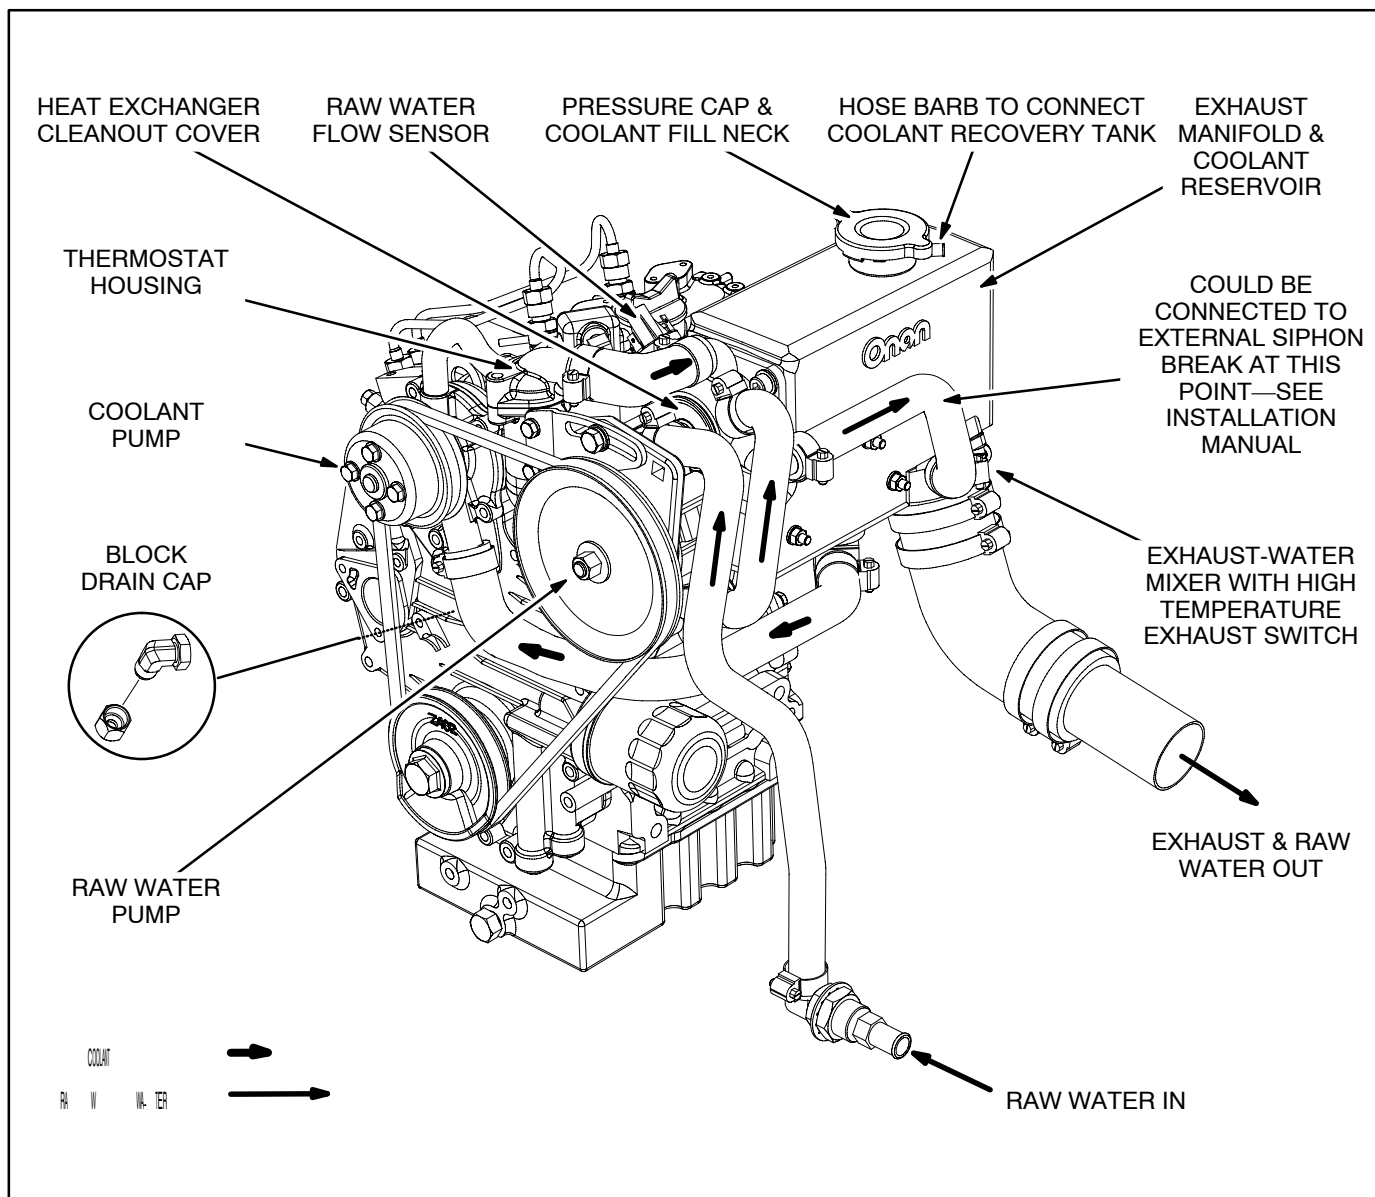

FIGURE 4-4. ENGINE COOLING SYSTEM
The engine is cooled by a pressurized, closed-loop liquid cooling system in which coolant is pumped through passages in the engine block, head and exhaust manifold (Figure 4-4). The exhaust manifold also serves as the engine coolant reservoir.
3. Drain the exhaust manifold/coolant reservoir by disconnecting the hose at the coolant pump inlet (Figure 4-4) and twisting it down into a container.
4. Drain the block by removing the cap on the drain fitting on the left side of the block (Figure 4-4). Use an 11/16 inch socket on a swivel and 12 to 18 inch extension. To catch the coolant and direct it into a container, insert the socket and extension through a piece of hose large enough to fit over the socket but shorter than the extension. The hose will catch the coolant as the cap is being unscrewed.